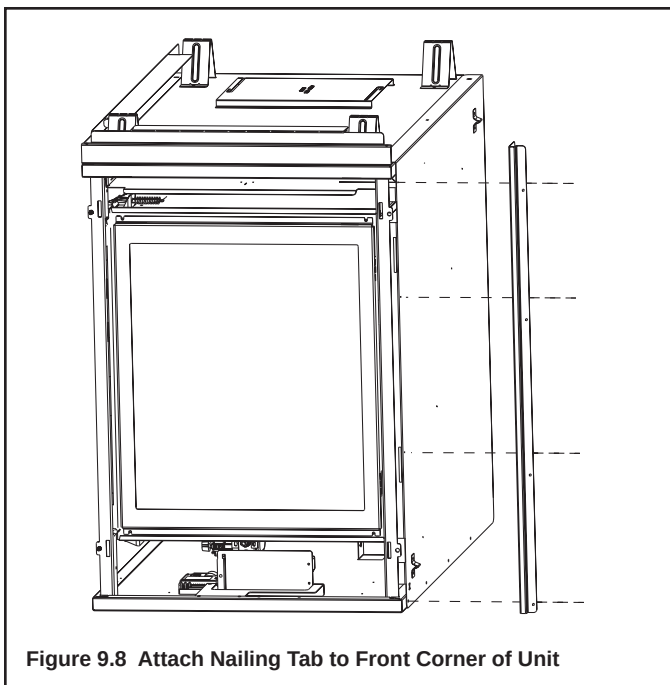

Figure 9.8 Attach Nailing Tab to Front Corner of Unit
Figure 9.8 Attach the first vent section (it will snap into place). Slide the vent gasket onto the vent section and then, up against the appliance. Secure the vent gasket to the appliance with two self-tapping screws found in the manual bag. Note: The vent gasket can found in the manual bag.
2. When installing a **GDCL4136I** or **GDCR4136I** fireplace remove the nailing tab located on the side of the unit and reattach it to the front corner of the unit as shown in Figure 9.8 (GDCR4136I).